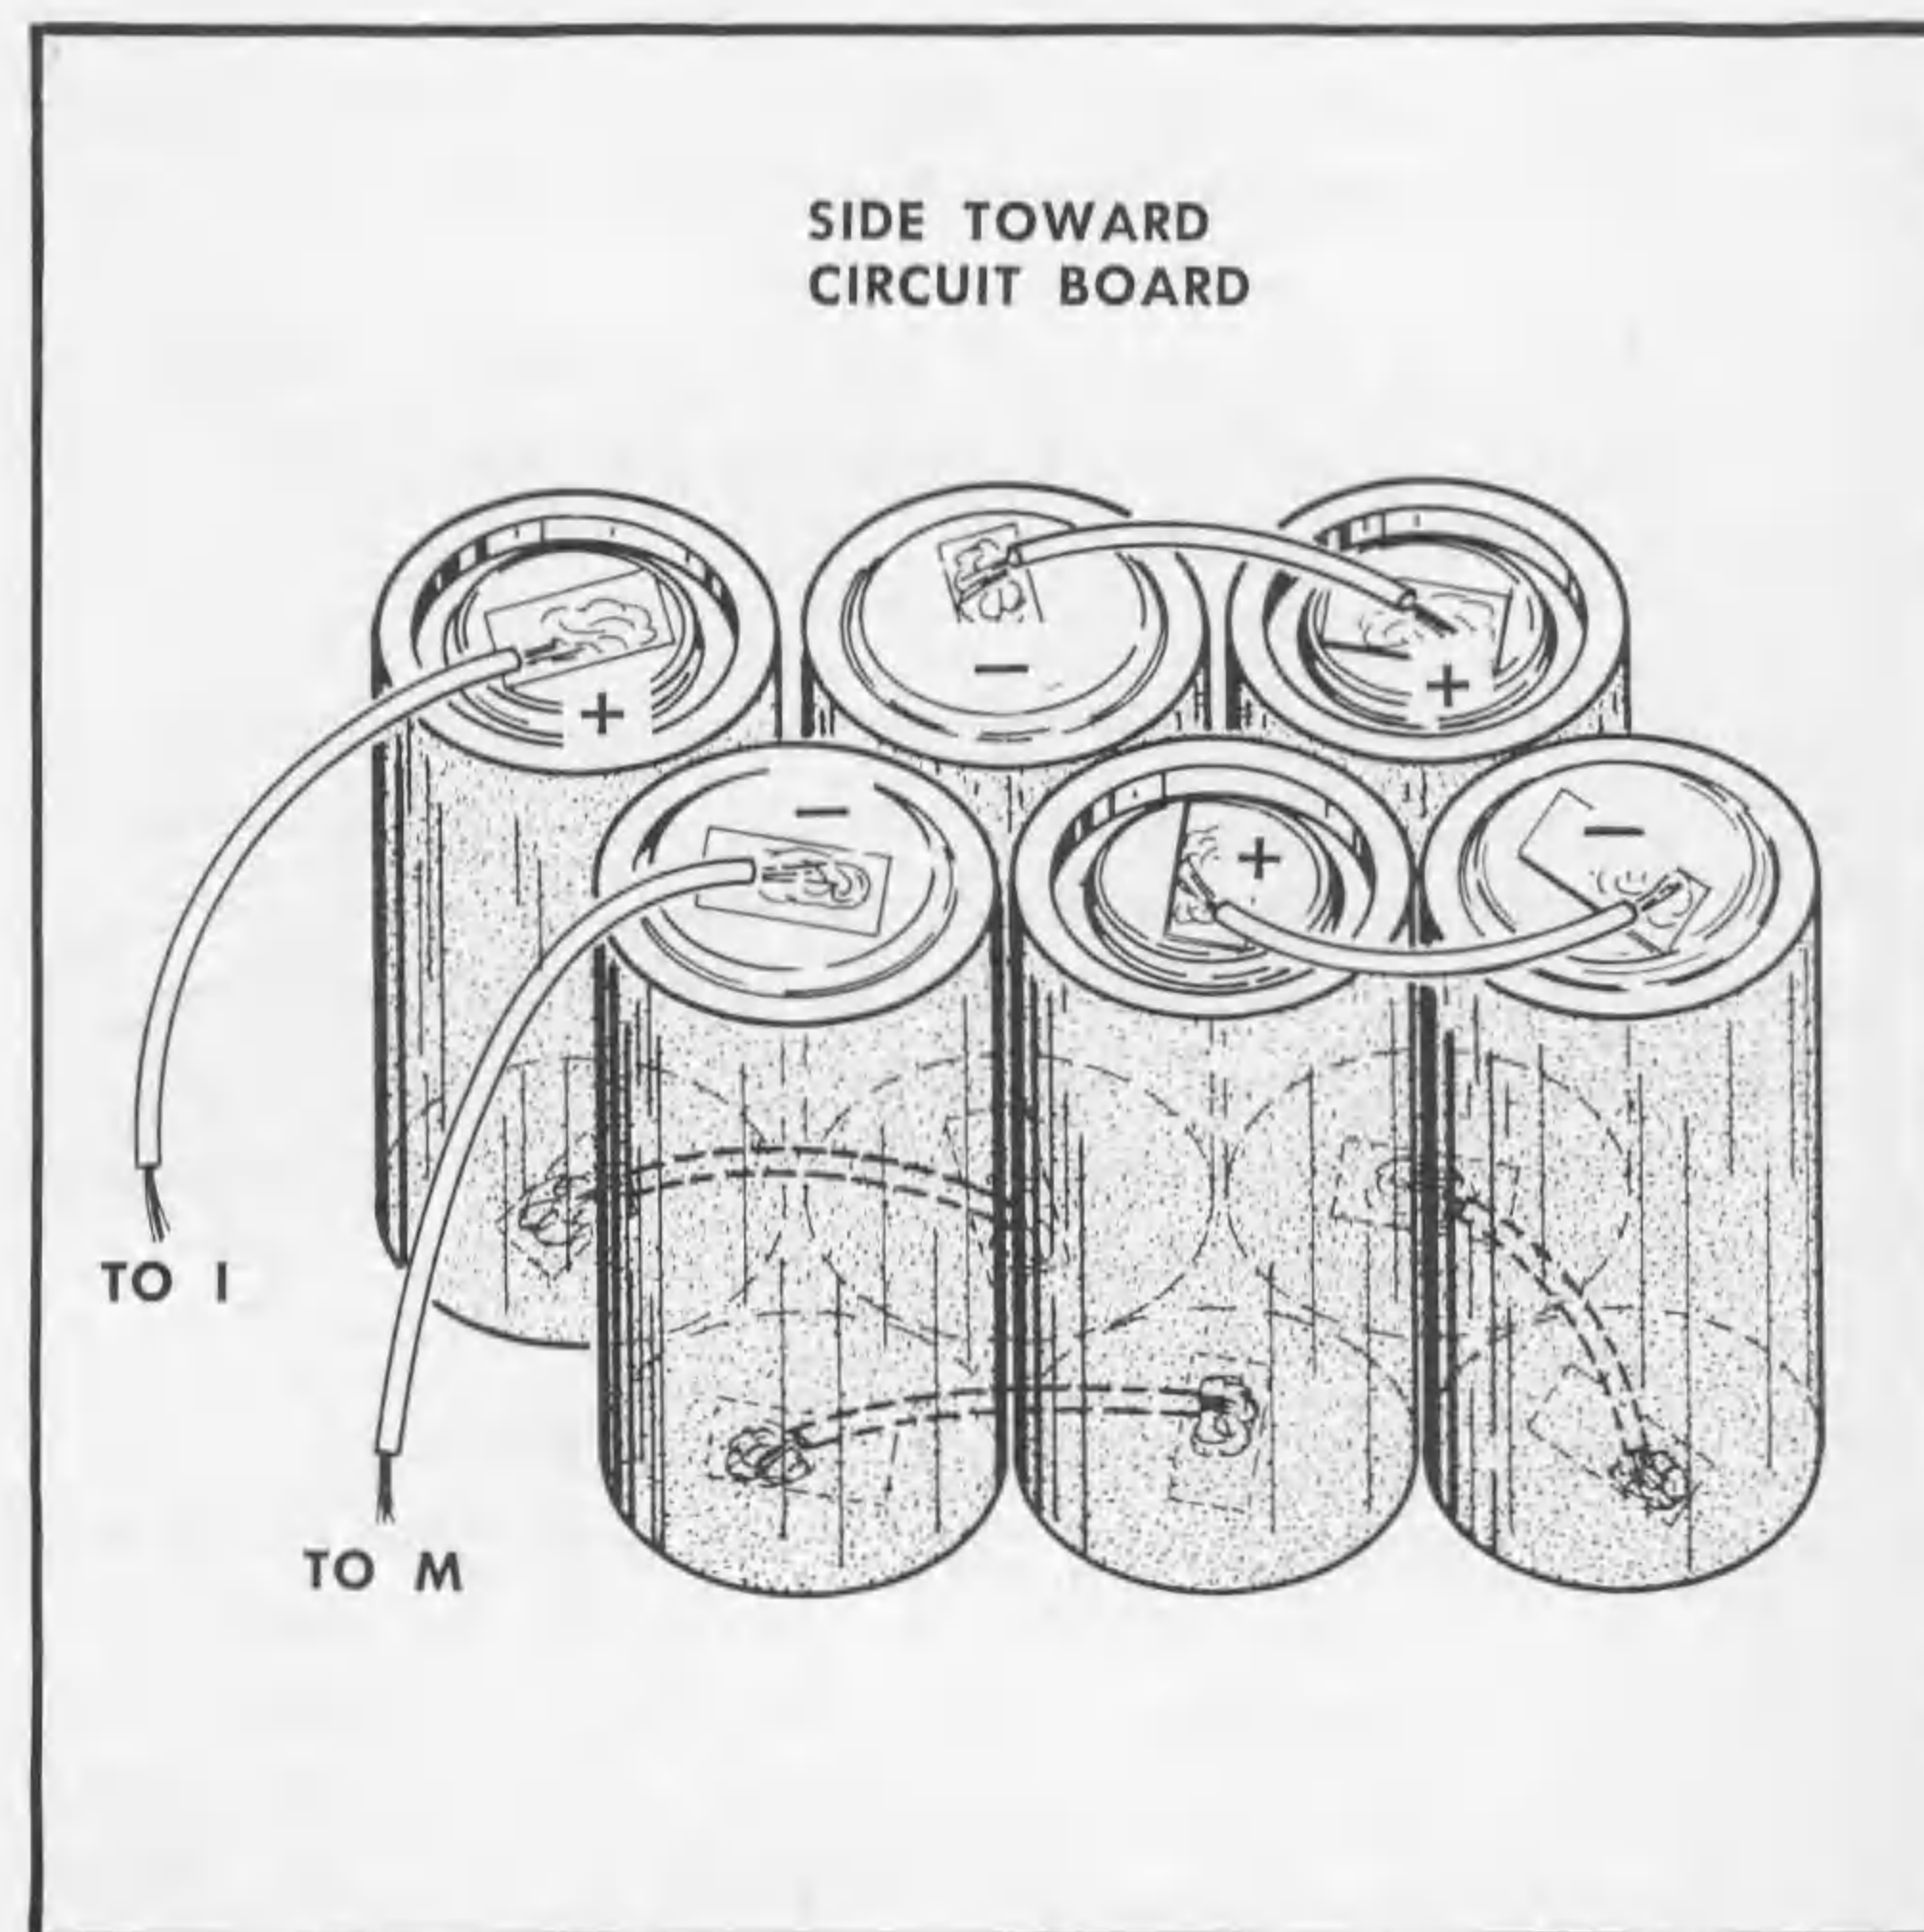

Fig. 4-11. Battery Wiring.
**Battery.** The battery in the Power Pack is made up of six 1.25 V Nickel-Cadmium (NiCd) cells strapped together, series-aiding. See Fig. 4-11. Background information regarding these cells is given in the Operating Instructions section and should be read before any servicing is performed on the battery.
**Individual Cell Replacement.** When necessary, individual cells can be removed and replaced by cutting the straps which connect the two ends of the cell to the pack, and soldering in a new cell. See Fig. 4-11. The cell type specified in the parts list must be used. Other types may not function properly, despite operating claims. They may prove to be a hazard to the instrument and to personnel. Operating time and/or temperature performance may be degraded. If an emergency substitution must be made, the cell must be able to withstand a 180 mA charge rate. The cells should then only be used as long as is necessary to obtain the prescribed replacements. The battery should be charged for 24 hours at a FULL CHG rate after individual cells are replaced.